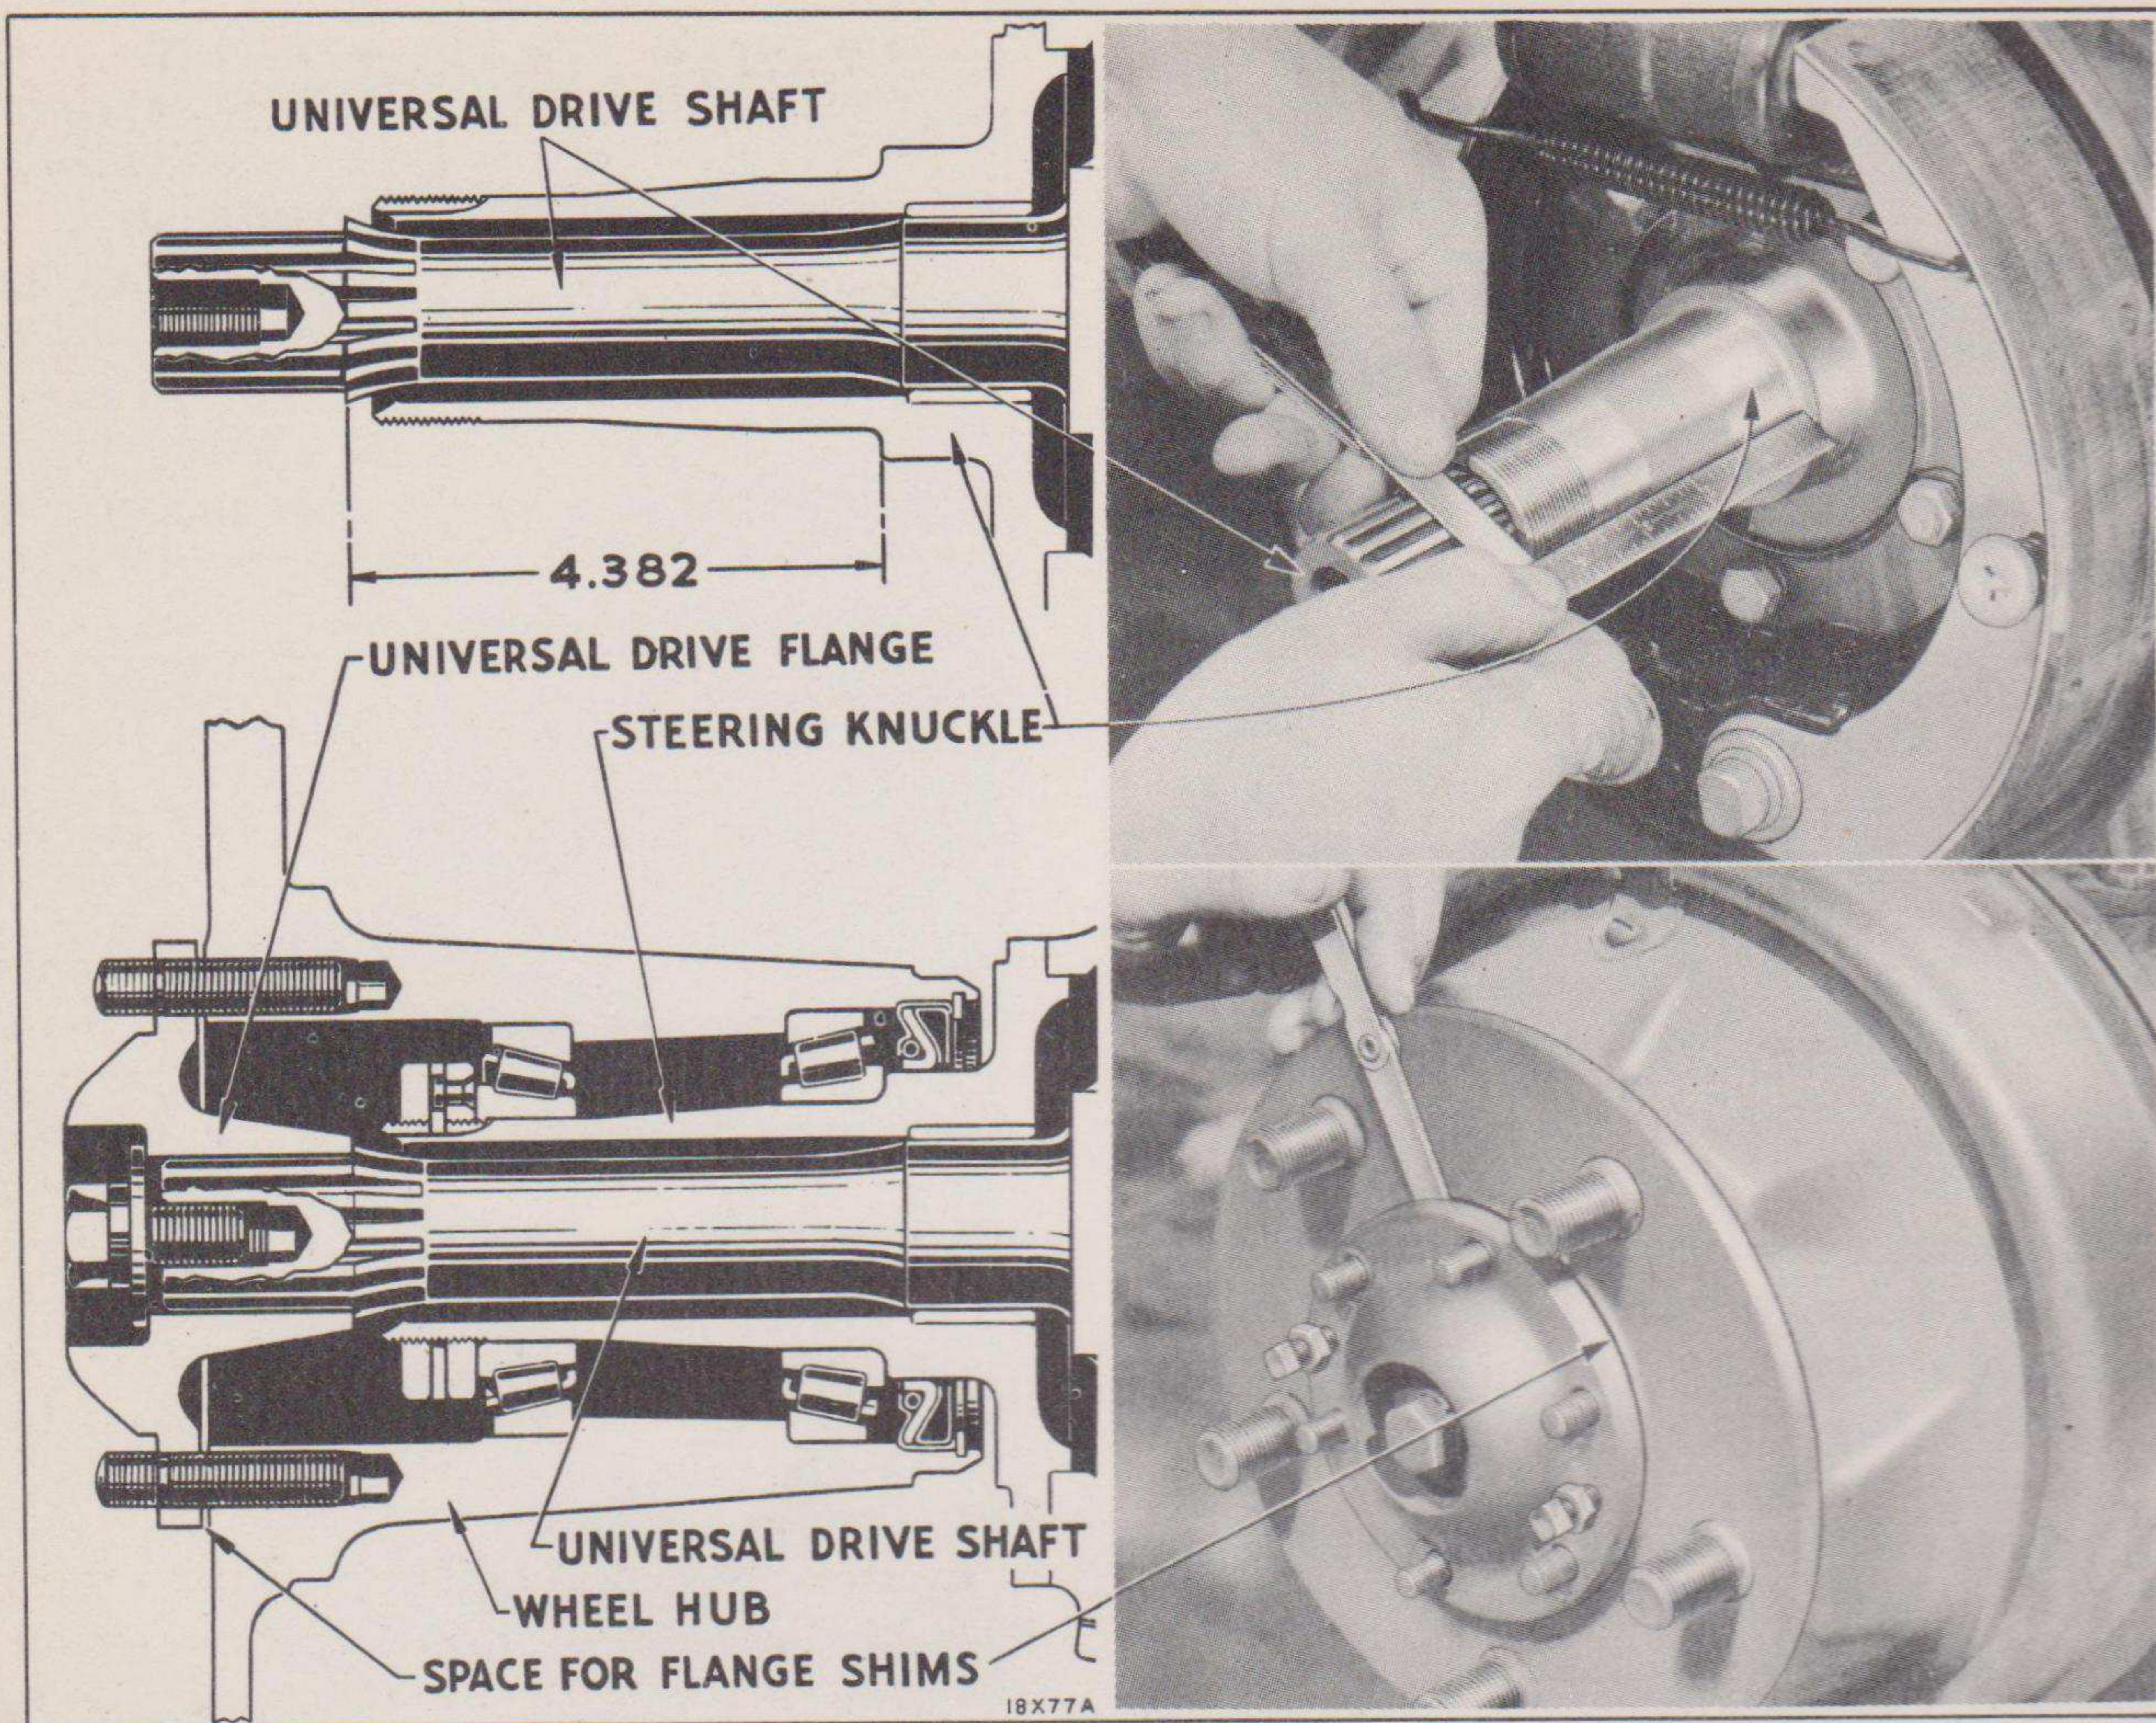

Fig. 27—Front Axle Shaft End-Play Adjustment (Bendix-Weiss only)
With an accurate steel rule or depth gauge, measure the distance from the steering knuckle flange inner bearing shoulder to the flat shoulders of the splines at the outer end of the axle shaft as shown in Fig. 27. This measurement should be 4.382" or a full  $4\frac{3}{8}$ ".
- (f) With the drive assembly pushed all the way in, measure the distance from the steering knuckle flange inner bearing shoulder to the flat shoulders of the splines at the outer end of the drive shaft. See Fig. 27. If the measurement is not 4.382" or a full  $4\frac{3}{8}$ ", it can be corrected by removing or installing the necessary amount of shims between the inner end of the drive shaft and the thrust button.
- (d) With the flange and drive assembly forced inward as far as it will go, measure with a feeler gauge, the space between the drive shaft flange and the wheel hub as shown in Fig. 27.